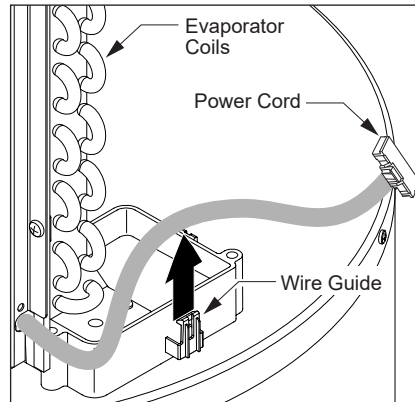

Figure 81 - Removing Fan Motor Power Cord
Step 5. Note the location of cable ties securing the power cord for re-installation later in **Step 19.** Remove cable ties and gently pull power cord up and away from wire guide (see Figure 81).